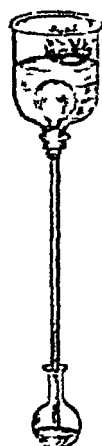

FIG 36
**Conductivity of liquids** — Pass the air-thermometer through a bell-jar as in fig 36. Fill the jar nearly to the top with water. float a small dish on the top containing alcohol, ignite the alcohol.